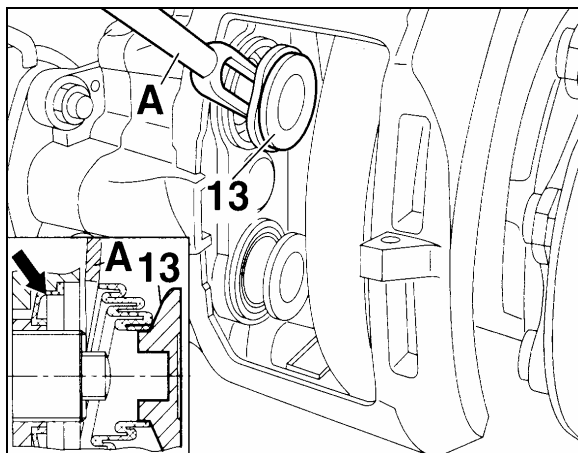

FIGURE 36: RUBBER BOOTS
- a) The rubber boots (13, Fig. 36) should show no damage, check the attachment.